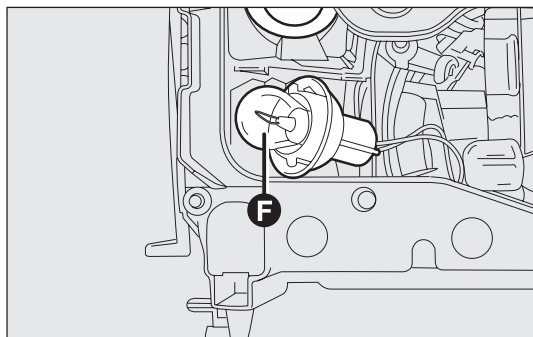

fig. 144
- ☐ remove the burnt bulb F-fig. 144 and fit the new one;